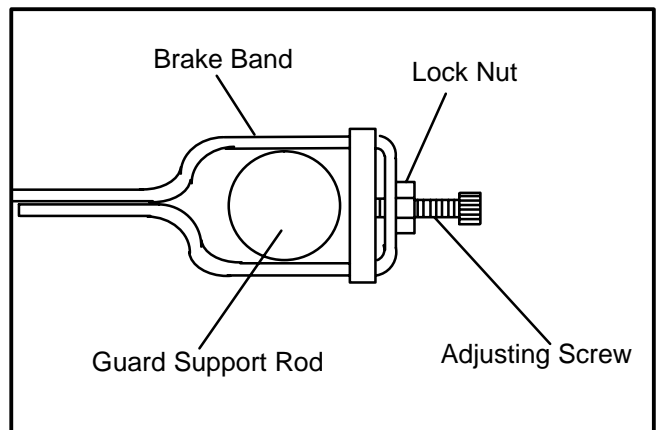

FIGURE 21
4. Loosen the lock nut and the adjustment screw on the new brake band. Activate the brake lever and tighten the adjustment screw until the brake band is pulled snug against the belt. Tighten the lock nut on brake adjustment screw. Make a test run. Stop engine and re-adjust brake band if necessary. See Figure 21.